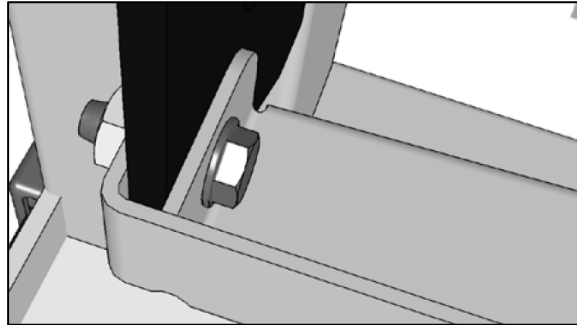

Figure 7
- Install the fore screw & nut with #680038 Blue Loctite 243. (Fig. 7)